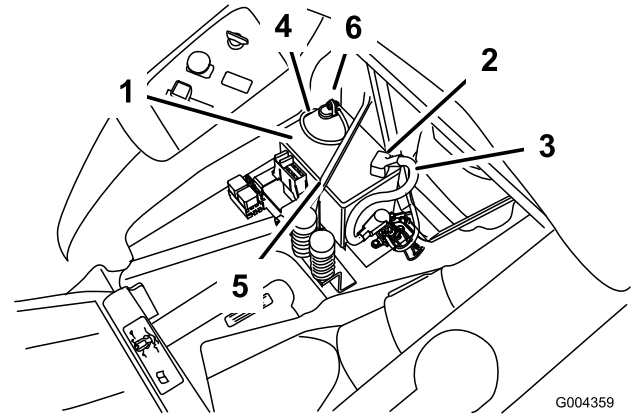

Figure 43
4. Disconnect the negative (black) ground cable from the battery post (Figure 43).
5. Slide the rubber cover up the positive (red) cable. Disconnect the positive (red) cable from the battery post (Figure 43).
6. Remove the battery hold-down (Figure 43) and lift the battery from the battery tray.
1. Position the battery in the tray with the terminal posts away from the control panel (Figure 43).
4. Secure the cables with 2 bolts (1/4 x 3/4 inch), washers (1/4 inch), and nuts (1/4 inch) (Figure 43).
6. Secure the battery with the hold-down (Figure 43).